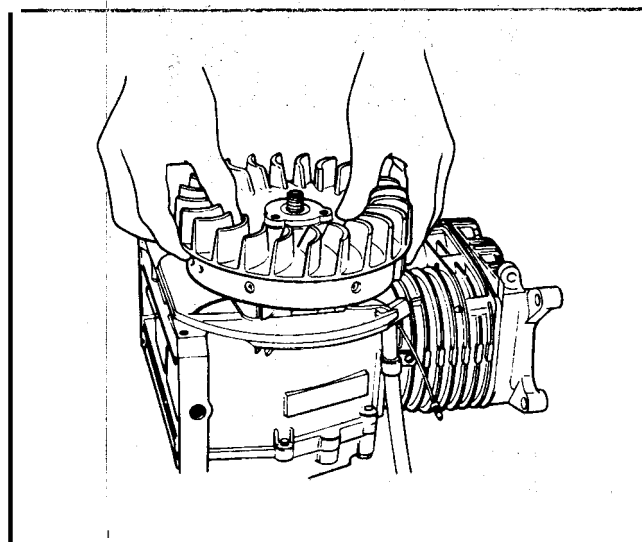

Figure 111
21. On units with ignition coils that are external to the flywheel the next step is to install the flywheel key and flywheel. See Figure 111.